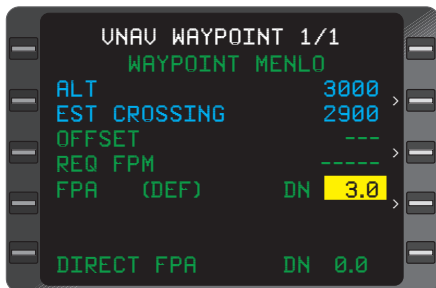

Figure 3-124
8. Flight Path Angle (FPA) - INSERT or VERIFY (valid range is 0.1 to 6.0). (Figure 3-124)